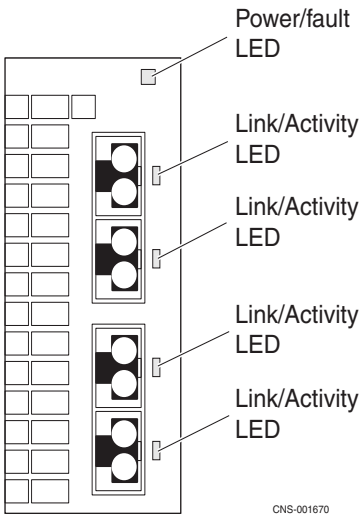

Figure 41 Four-port 8-Gb/s FC I/O module LEDs
The four-port 8-Gb/s Fibre Channel (FC) I/O module has two different types of status LEDs. Figure 41 shows the LEDs and Table 28 describes them.